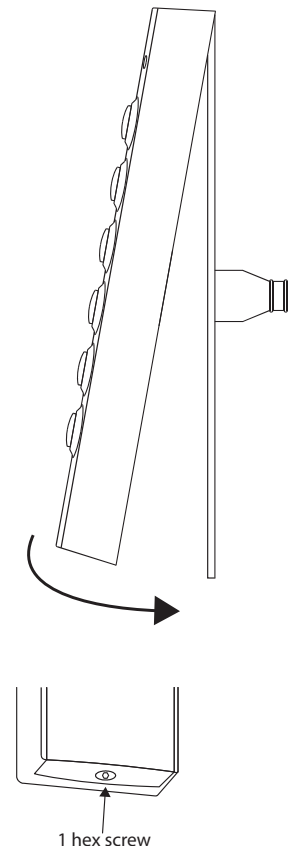

Figure 6: Installing the Face Plate
- Step 6) Carefully hook the keypad to the back plate and fit the Hex screw using the allen key supplied. **See figure 6.**